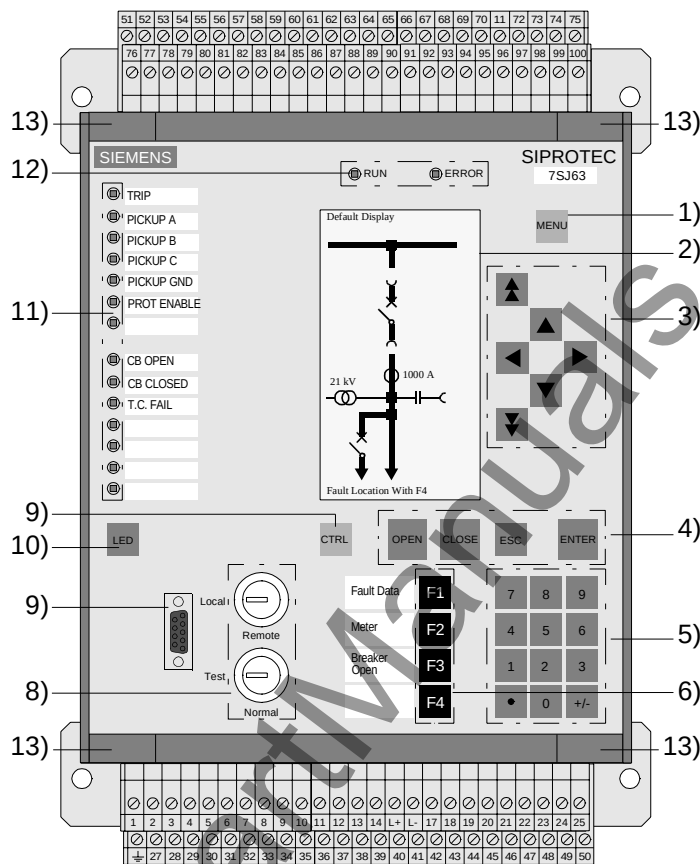

Figure 2-16 Front View, 7SJ63, (Housing Size $1\frac{1}{2}$), for Panel Surface-mounting, without Optical Connections
The significance of the operating and display elements is the same as explained after Figure 2-16.
Terminal Blocks	All connections including the electrical communication interfaces and the ground are made to threaded terminals on the two, double-row terminal blocks mounted on the top and bottom of the 7SJ63. The terminal blocks are shown in Figures 2-16 and 2-17. The terminals are consecutively numbered from left to right on each block. There are a total of 100 (200) terminals. The 7SJ63 is equipped with a short-circuit safety feature for the current circuits. If the internal board that is connected to the current circuits is extracted, the current circuits are short-circuited before the board breaks from the current circuits. When the board is replaced, connections are first made to the current circuits, and then the short-circuit connection is removed. This safety feature does not relieve the user from exercising proper care when working with current transformer secondary circuits.